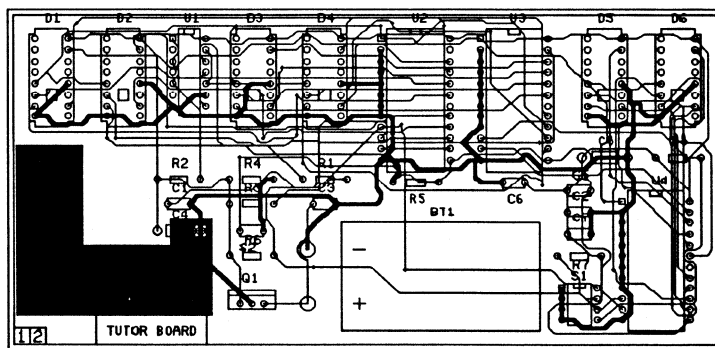

Figure 8-7. The autorouted TUTOR board, after via reduction.
6. Select **ZOOM Set Scale**, then enter **13** in the **Scale** entry box and select **OK**. Pan the display to view the entire board, as shown in figure 8-7.